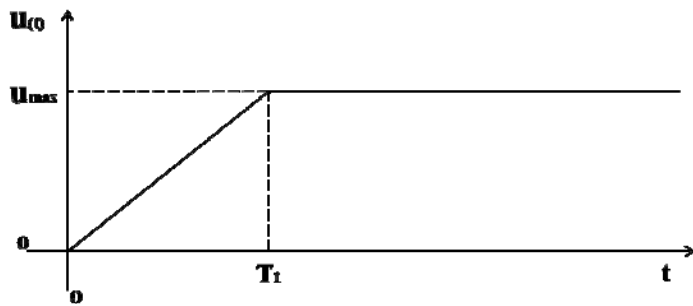

Fig. 2-4
- (3) (5 points) Assume that the input  $u(t) = e_a(t)$  shown in Figure 2-4 is used. Sketch the acceleration and speed profiles of the elevator cage. Note that it is not necessary to obtain the complete solution.
(4) (5 points) In this case when the input of the Figure 2-4 is applied, it is necessary to limit the acceleration of the elevator cage such that